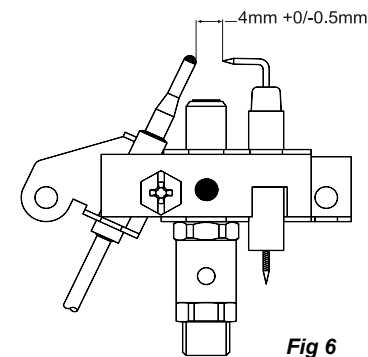

Fig 6
- Ignition System A piezo crystal in the gas control valve operates the ignition system. Depress the gas control knob and turn anti-clockwise rapidly (Two clicks will be heard). If the fire does not ignite after any air in the gas supply pipe has been purged check electrode setting – Dimension between the tip of the thermocouple and the tip of the electrode should be 4.0mm $-0/+0.5$ (see fig 6).